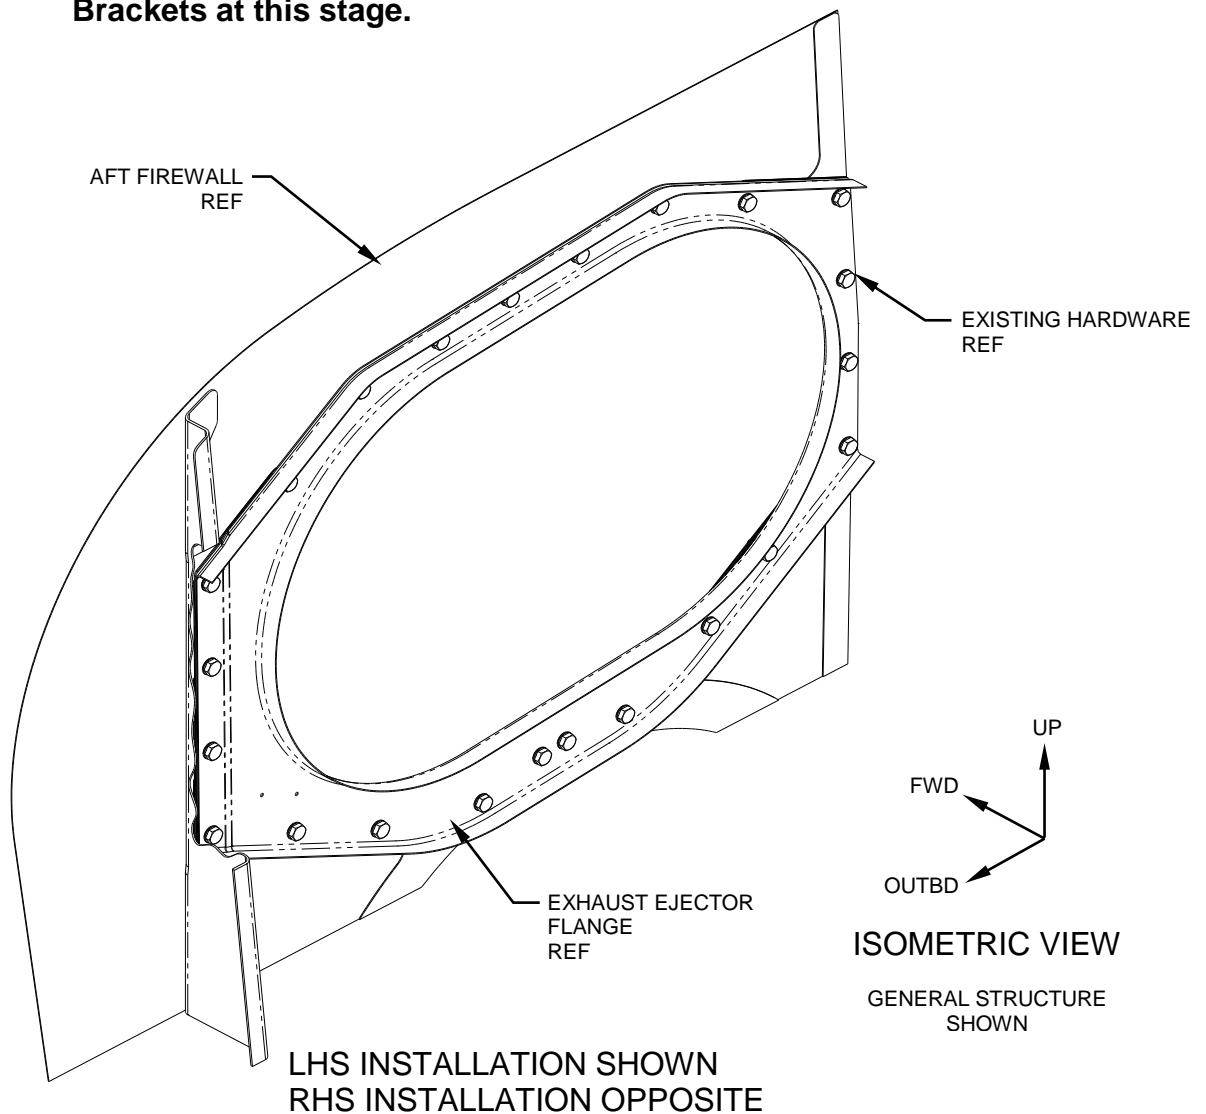

Figure 1
3. Remove the Exhaust Ejectors and discard all hardware common to the Exhaust Ejector Flanges and Exhaust Ejector Links. Reference Figures 1 & 5.
22. Re-install the Exhaust Ejectors and the supplied hardware common to the Exhaust Ejector Flange in the appropriate locations as shown. Tighten the hardware. Reference Figures 1 & 6.